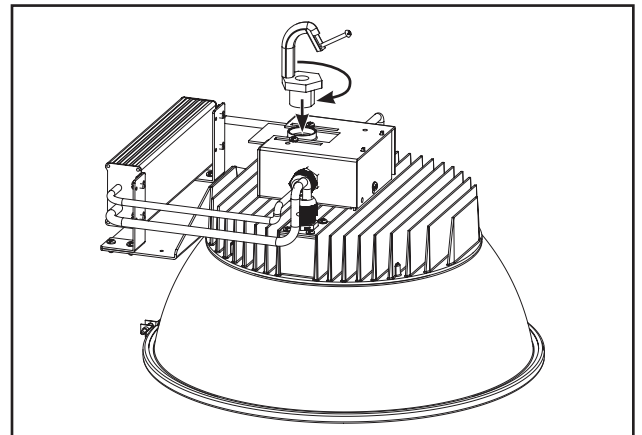

Figure 1.
4. Completely thread the mounting hook into threaded hole on the adjustable mounting plate on top of the luminaire. (Figure 1)